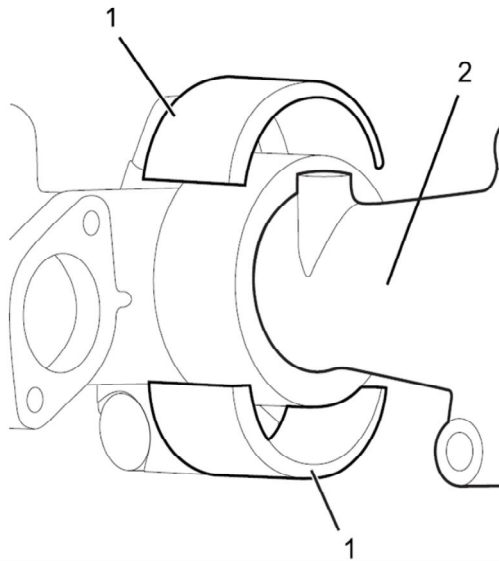

Figure 29: Front Exhaust Manifold Ring Seal Shields
31. Install two shield halves with beveled flange (**Figure 29**, Item 1) on seal packing end and align join with manifold midpoint.